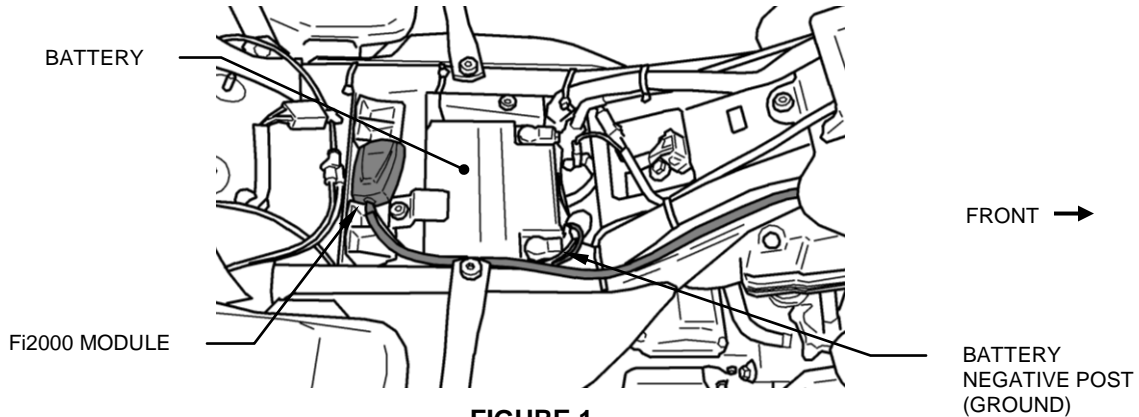
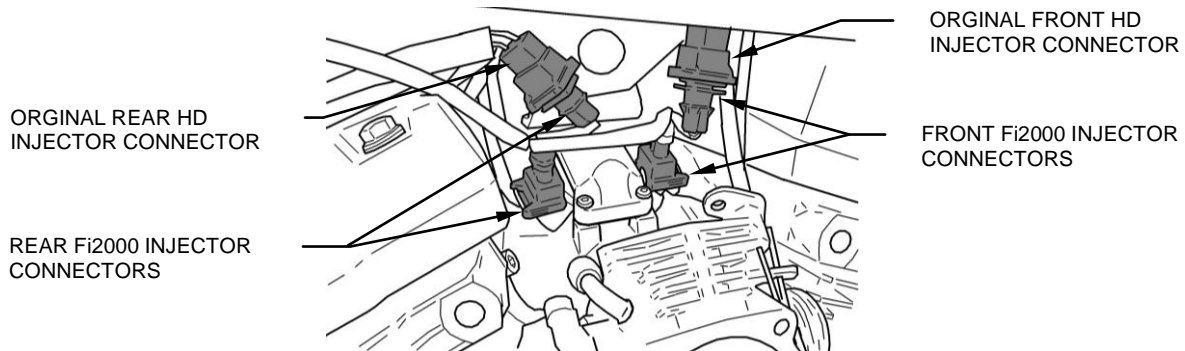
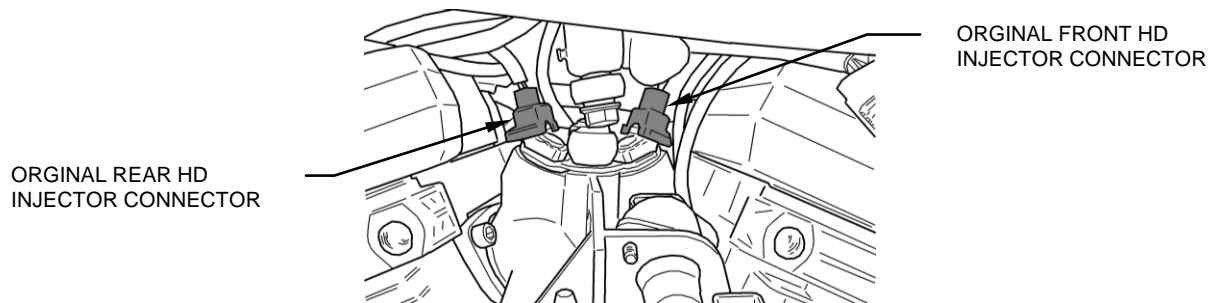

FIGURE 1
FIGURE 2
FIGURE 3
4. Lay the Fi2000 module in place, but do not attach it to the motorcycle, and run the wiring harness up to the manifold area behind the other wiring of the throttle body (See figure 1). Attach the Fi2000 module's forward injector plug with the grey and red wires to the front injector. Take the original HD connector and insert the corresponding Fi2000 connector with the brown and red wires into it. (For model years 02' and Up refer to figure 2, for model years 95-01 refer to figure 3)
5. Attach the Fi2000 module's rear injector plug with the blue and red wires to the rear injector. Then take the original HD connector and insert the corresponding Fi2000 connector with the green and red wires into it. (For model years 02' and Up refer to figure 2, for model years 95-01 refer to figure 3). Use one of the supplied zip-ties to secure the Fi2000 wire harness to the upper motor mount before it is routed back towards the seat area.
6. Route the BLACK wire from the module to the negative post of the battery as shown in figure 1.
7. Before re-installing the gas tank, seat and air cleaner assembly, verify your connections. Remove the door from the Fi2000 box to expose the LED's. Verify the wire connections by (1) turning the ignition on, prior to starting, and see if all three LED's are on steady. If you have no light, your ground connection (BLACK wire) has not made proper contact or your front injector connection is not complete. (2) After achieving a steady light from all three LED's, start the motorcycle, wait 15 seconds and let it idle, the green light should now be the only LED on. If all three LED's are still on after start up, verify you have attached the injector connectors correctly. Reattach the door when finished. **Note:** Make sure the ignition is turned off before changing any connection.
9. Remove the backing from the Velcro and attach the Fi2000 next to the battery as shown in figure 1.